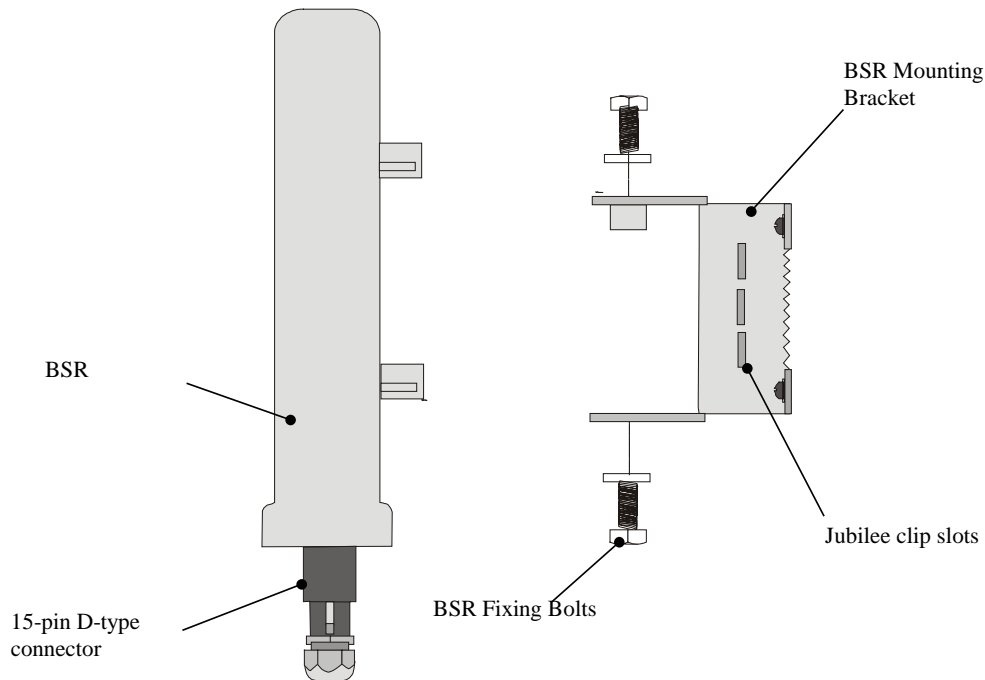

Figure 4-11: Attaching the mounting bracket to the BSR
1. Attach the mounting bracket to the BSR using two stainless steel bolts, as shown in Figure 4-11.